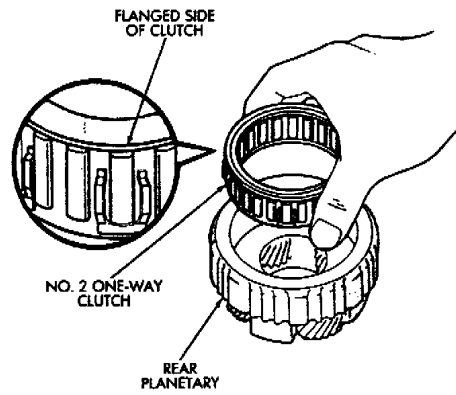

Fig. 12 Installing No. 2 One-Way Clutch
- (5) Install No. 2 one-way clutch in planetary gear. Be sure flanged side of clutch faces upward (Fig. 12).